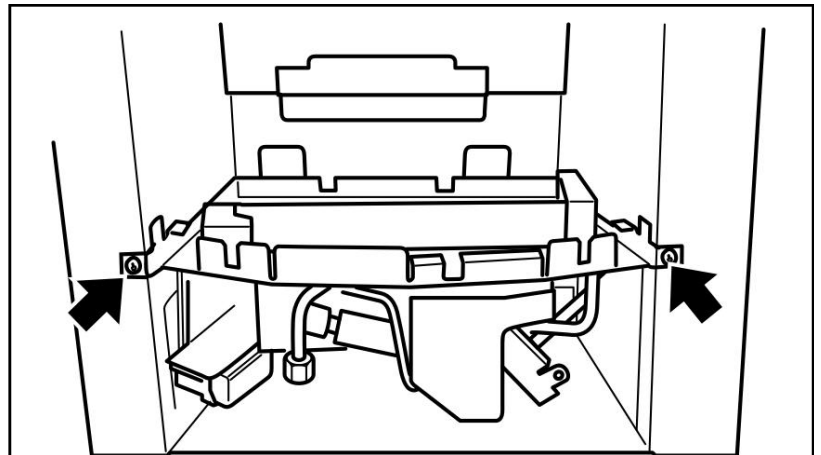

Figure 10. Burner attachment points (Burner detail may differ from that shown)
2. Detach the burner unit from the hotbox by removing two screws (See figure 10). Lift the burner unit clear.